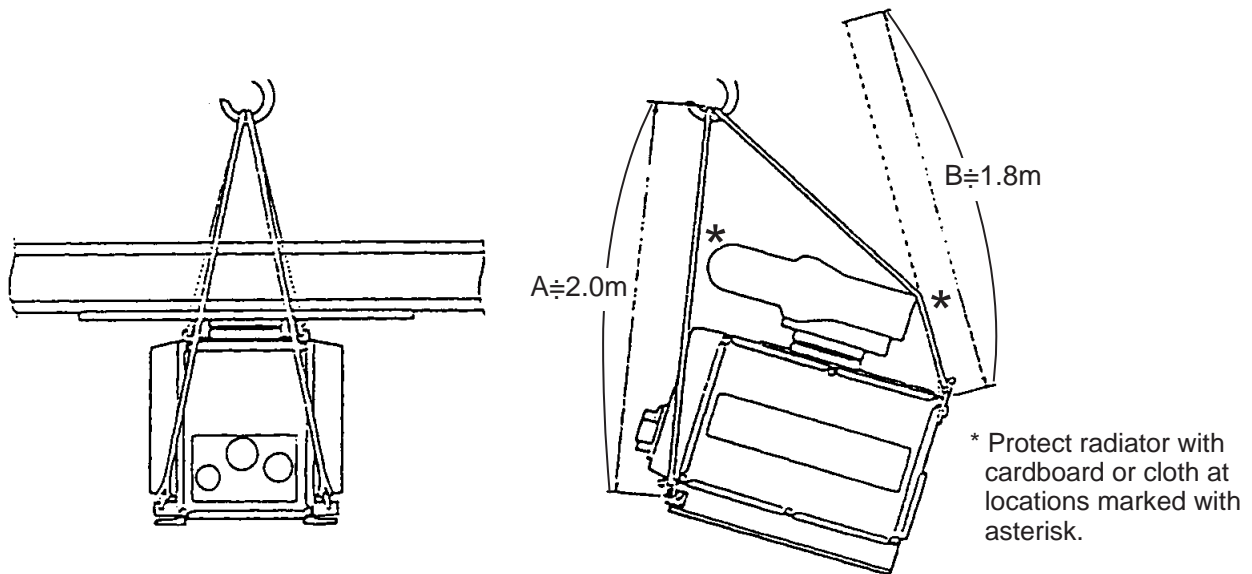

Figure 1-3 Attachment of ropes
3. Position the radiator as shown in Figure 1-3 and arrange the ropes A \approx 2m and B \approx 1.8m.